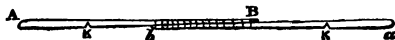

Fig. 1.
1. The keel, stem, and stern might be in one; but, because the stem and stern ought to be strong, this whole line is made of two small trees lashed together with the thick ends outwards, as in fig. 1, where A B is a lithe clean little willow-tree, and *a b* another similar one. They are lashed together at their taper ends.